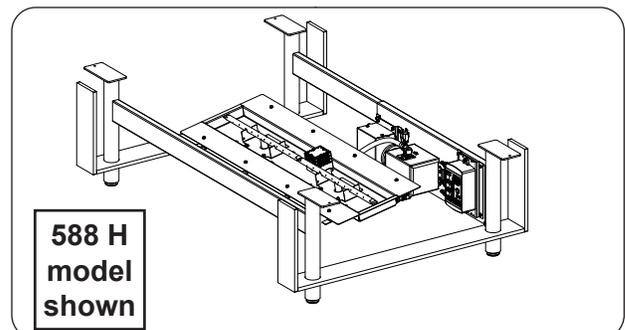

Fig. 32-4 Remove top piece, place frame
4. **CAREFULLY** set the top/main unit piece aside. Then place the metal frame in an appropriate location, (see Fig. 32-4, and refer back to the LOCATION section if needed).